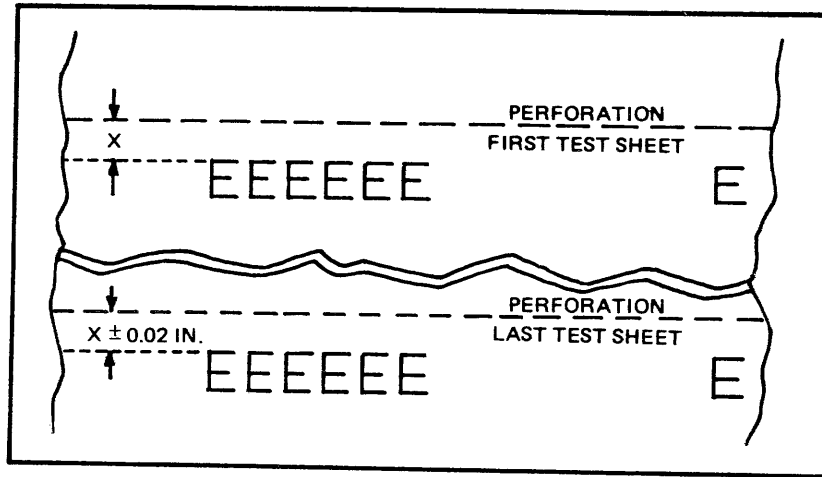

Figure 43 Form Feed Test Criteria
- d. Examine printed pages to see that the last line of print has remained at the same position on each page. If printing has shifted more than 0.02 inch vertically (figure 43), corrective maintenance (Top of Form function) may be required.